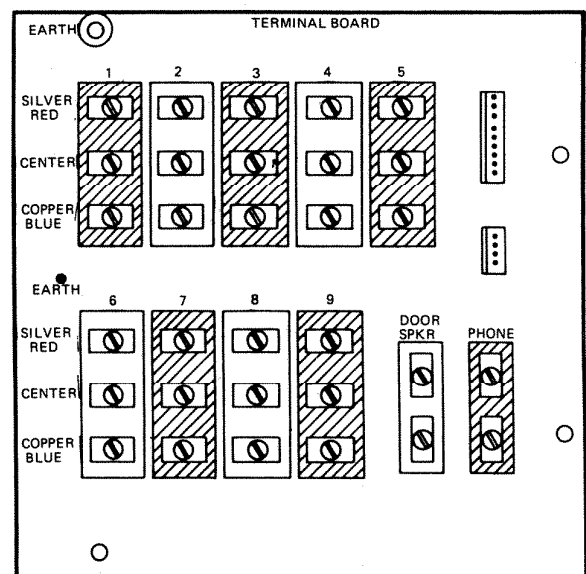

FIGURE 2
2. Connect the three-conductor wire (IWA-3) from each speaker to a set of terminal screws. See Figure 2. The IM-3003 Series Radio Intercom system will accommodate up to 13 speakers. If more than 9 speakers are connected, use only terminals 1, 2, 6, 7 for double wiring connections.